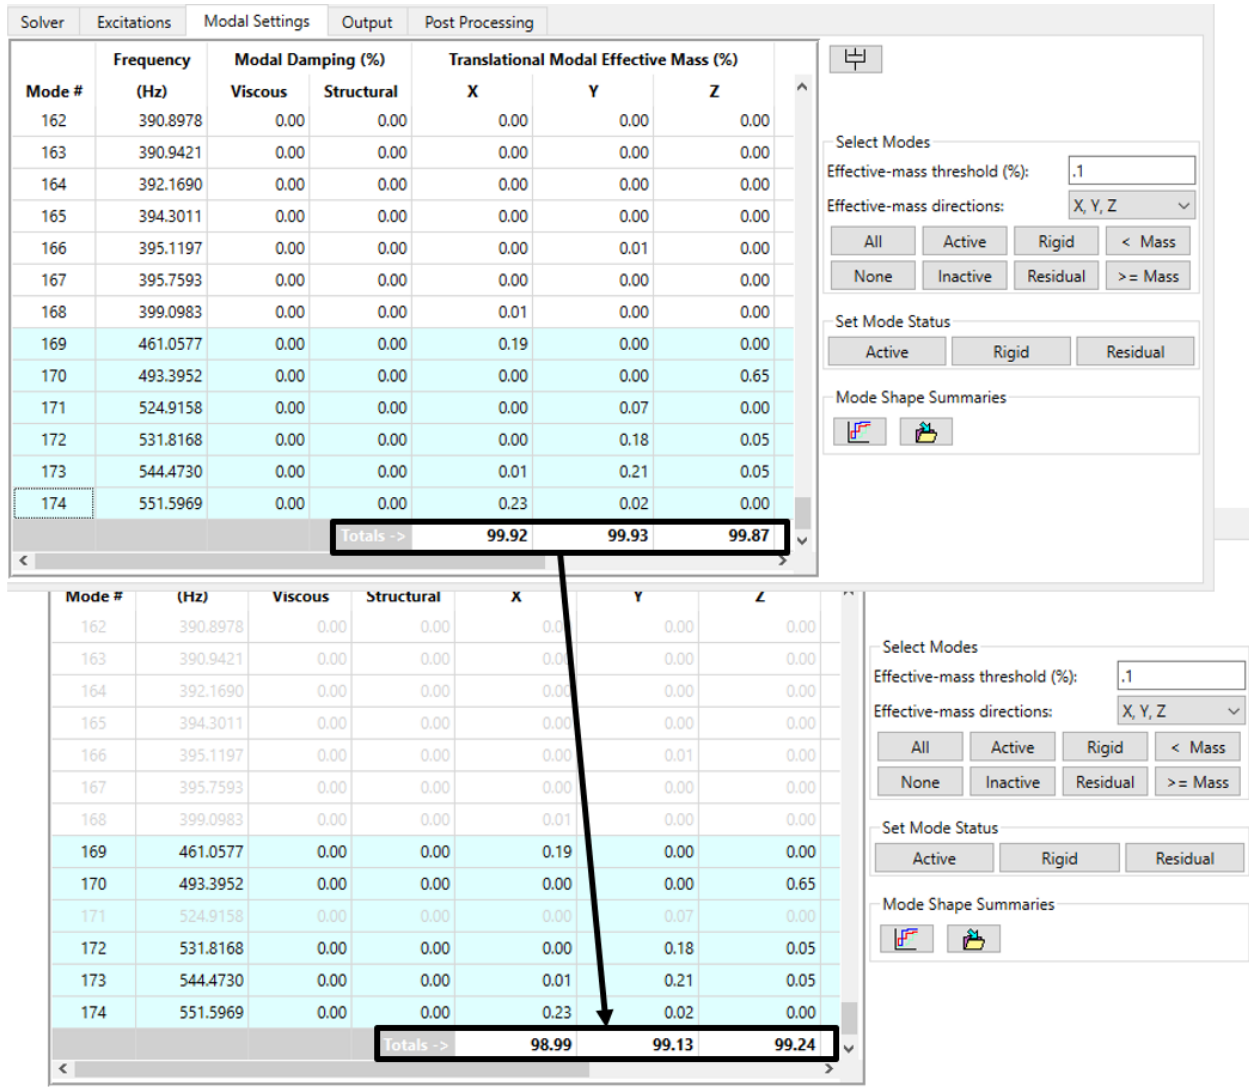

Figure 4-72. All but 51 of the 174 modes are turned off, but 98% of the effective mass remains.
3. With the low-mass modes selected, click the **Active** button in the *Set Mode Status* panel to deactivate the selected modes (Figure 4-72). This leaves only 51 of the 174 modes active, so the solver will compute responses at many fewer frequencies. Note, however, that we have deactivated less than about 1% of the effective mass for any of the translations.